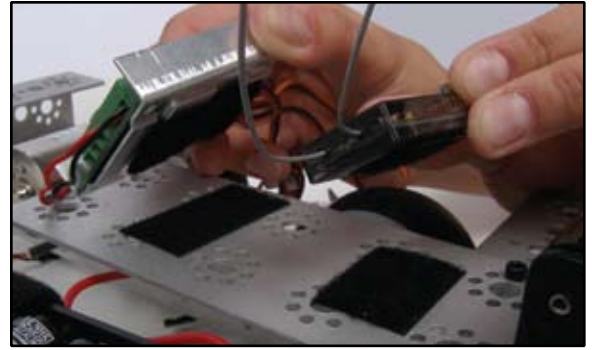

Figure F1
- 3) Using the Velcro-like fasteners, zip ties, and screws that come with the electrical components, attach them to the robot body (Figure F1). The DC motor controller can be attached with screws, but you might have to use just two screws or angle the controller to align to the holes on the body. Items attached in the model include the receiver, receiver battery pack, on/off switch, DC motor controller, and the DC motor and controller battery pack (Figure F2).